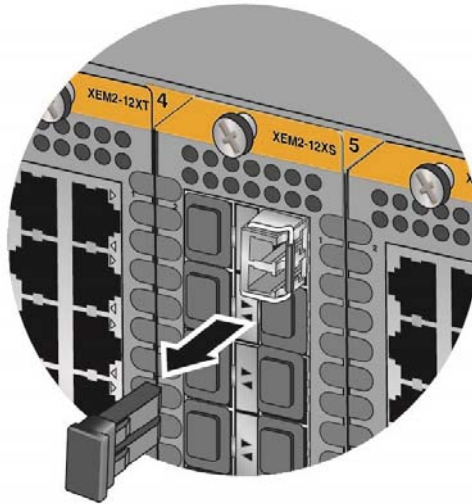

Figure 86. Removing the Dust Cover from an SFP or SFP+ Transceiver
3. Remove the dust cover from the transceiver, as shown in Figure 86 on page 121.